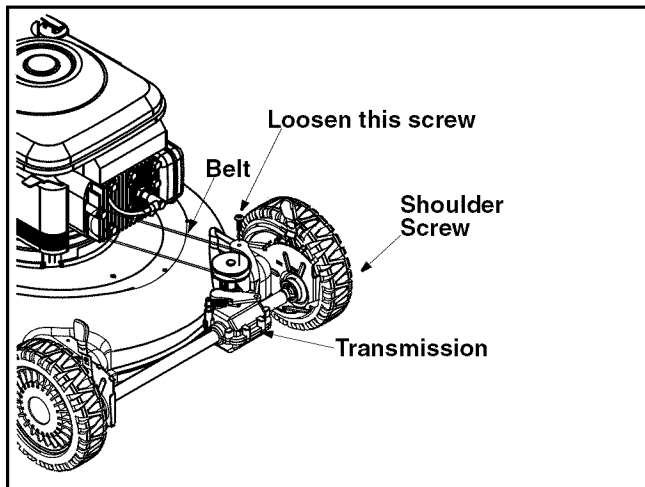

Figure 14
- Using a torque wrench, loosen the screw holding the belt tension spring to the transmission. See Figure 14.